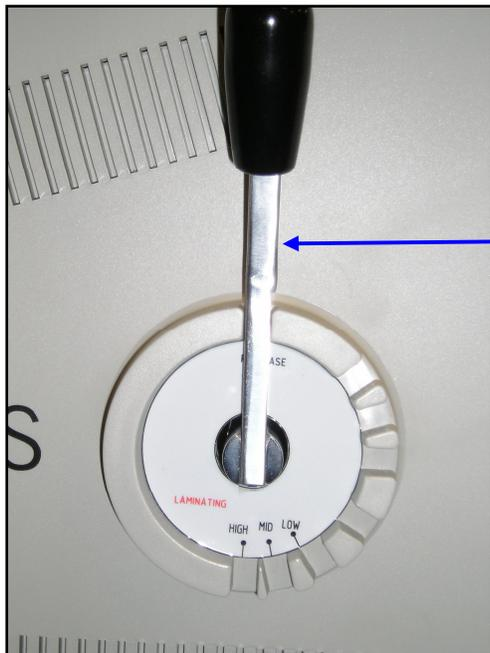

Figure 17
A. Roller Pressure Handle (Figure 17)